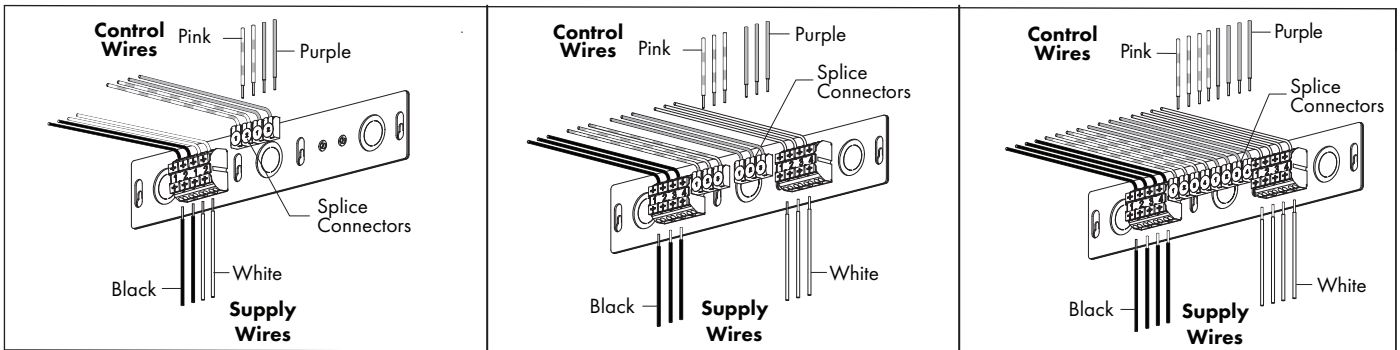

FIG 8.2 Attach Supply & Control Wires
2. Make wire connections noting individual lamp circuit numbers – FIG 8.2 & 8.4.